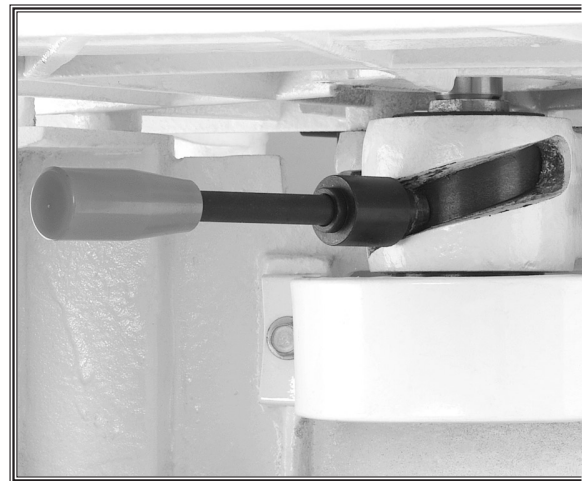

Figure 16. Spindle-height lever.
2. Move the spindle height lever shown in **Figure 16** to raise the spindle or left to lower the spindle.